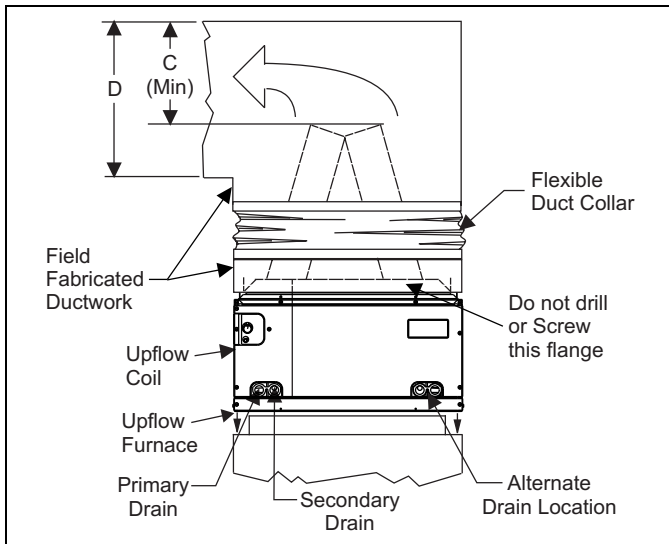

FIGURE 6: PC Series Upflow Coil Installation
1. Position the coil casing over the furnace opening as shown in Figure 6.
Do not drill any holes or drive any screws into the front duct flange on the coil in order to prevent damaging coil tubing. See Figure 6.
Dimension "C" should be at least 2/3 of dimension "D". See Figure 6